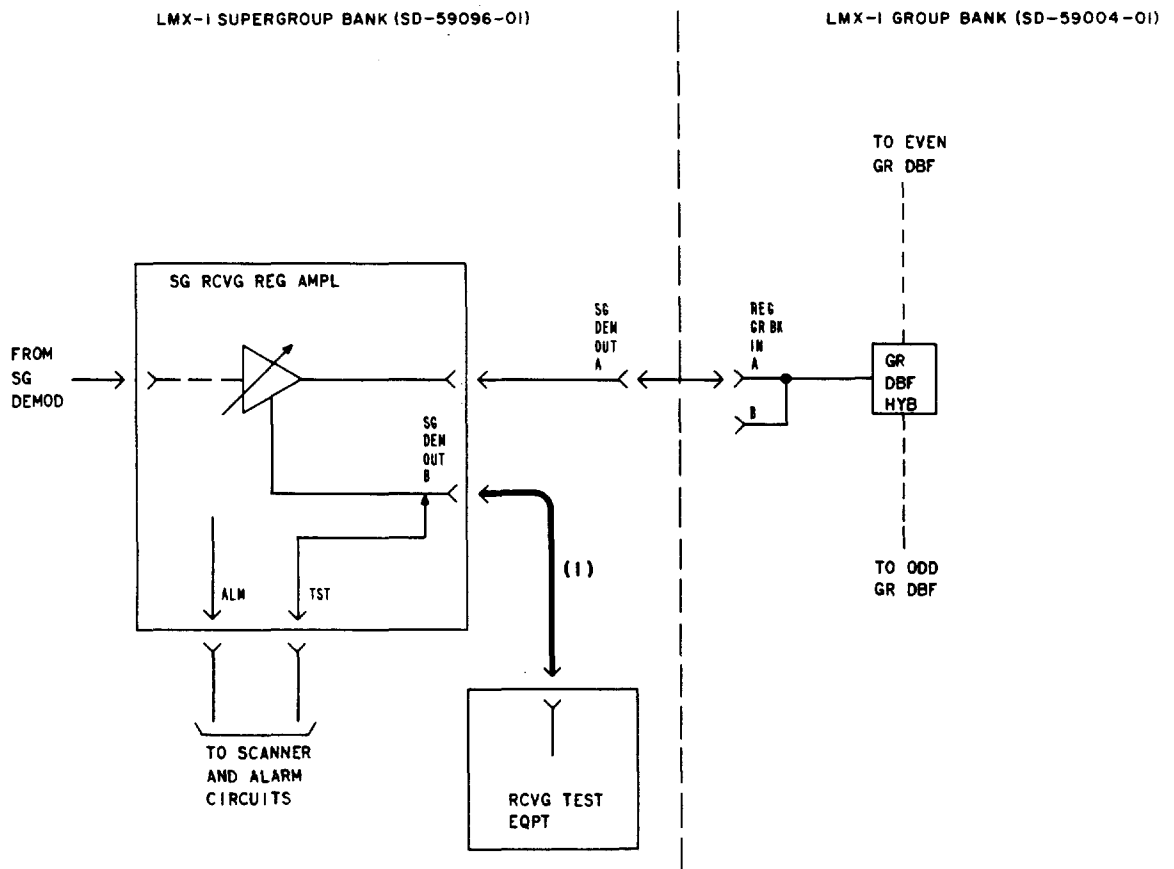

Fig. 4—Test Connections—Input Pilot Level Check
7	If the requirement of Step 6 is met, proceed to Step 9. If it cannot be met, proceed as follows:  Group 1: Remove the associated group bank from service and perform out-of-service tests as prescribed in Section 356-120-502.  Group 2 through 5: Verify that the pilot input power requirement is correct for the group circuit being tested as follows:  (a) Adjust the RTE as follows:  Frequency: Table A  Power: -48.0 dBm  Impedance: 75 ohms, unbalanced  Caution: Connect the patch cord to the RTE before making the connection to the SG DEM OUT B jack.  (b) Connect the RTE to the SG DEM OUT B jack of the supergroup regulated amplifier associated with the group bank being tested [patch (1), Fig. 4].  (c) Measure the power of the input pilot.  Requirement: -48 dBm
(b) Disconnect the RTE [patch (1), Fig. 4].
(b) Connect the RTE to the SG DEM OUT B jack of the supergroup regulated amplifier associated with the group bank being tested [patch (1), Fig. 4].